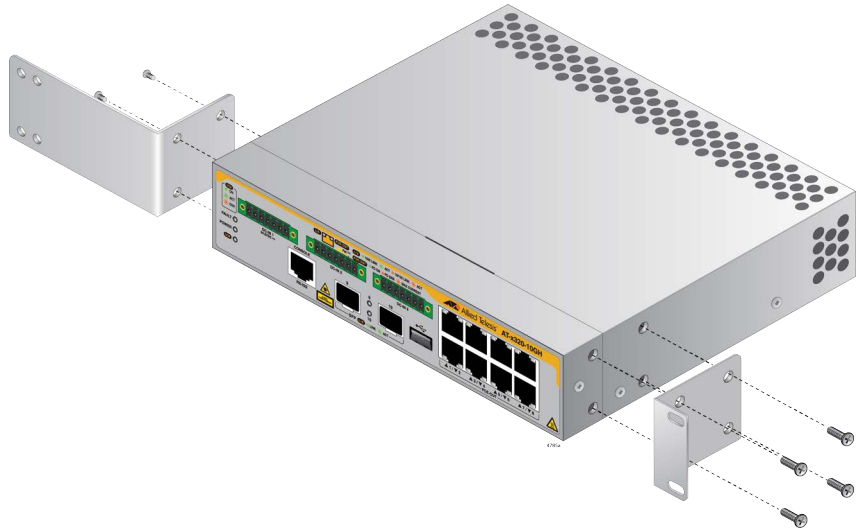

Figure 30. Attaching the Brackets to the Device
2. Attach the short L bracket to one side of the device and the long L bracket on the other side of the device using the eight M4x6 mm screws included with the unit. Refer to Figure 30